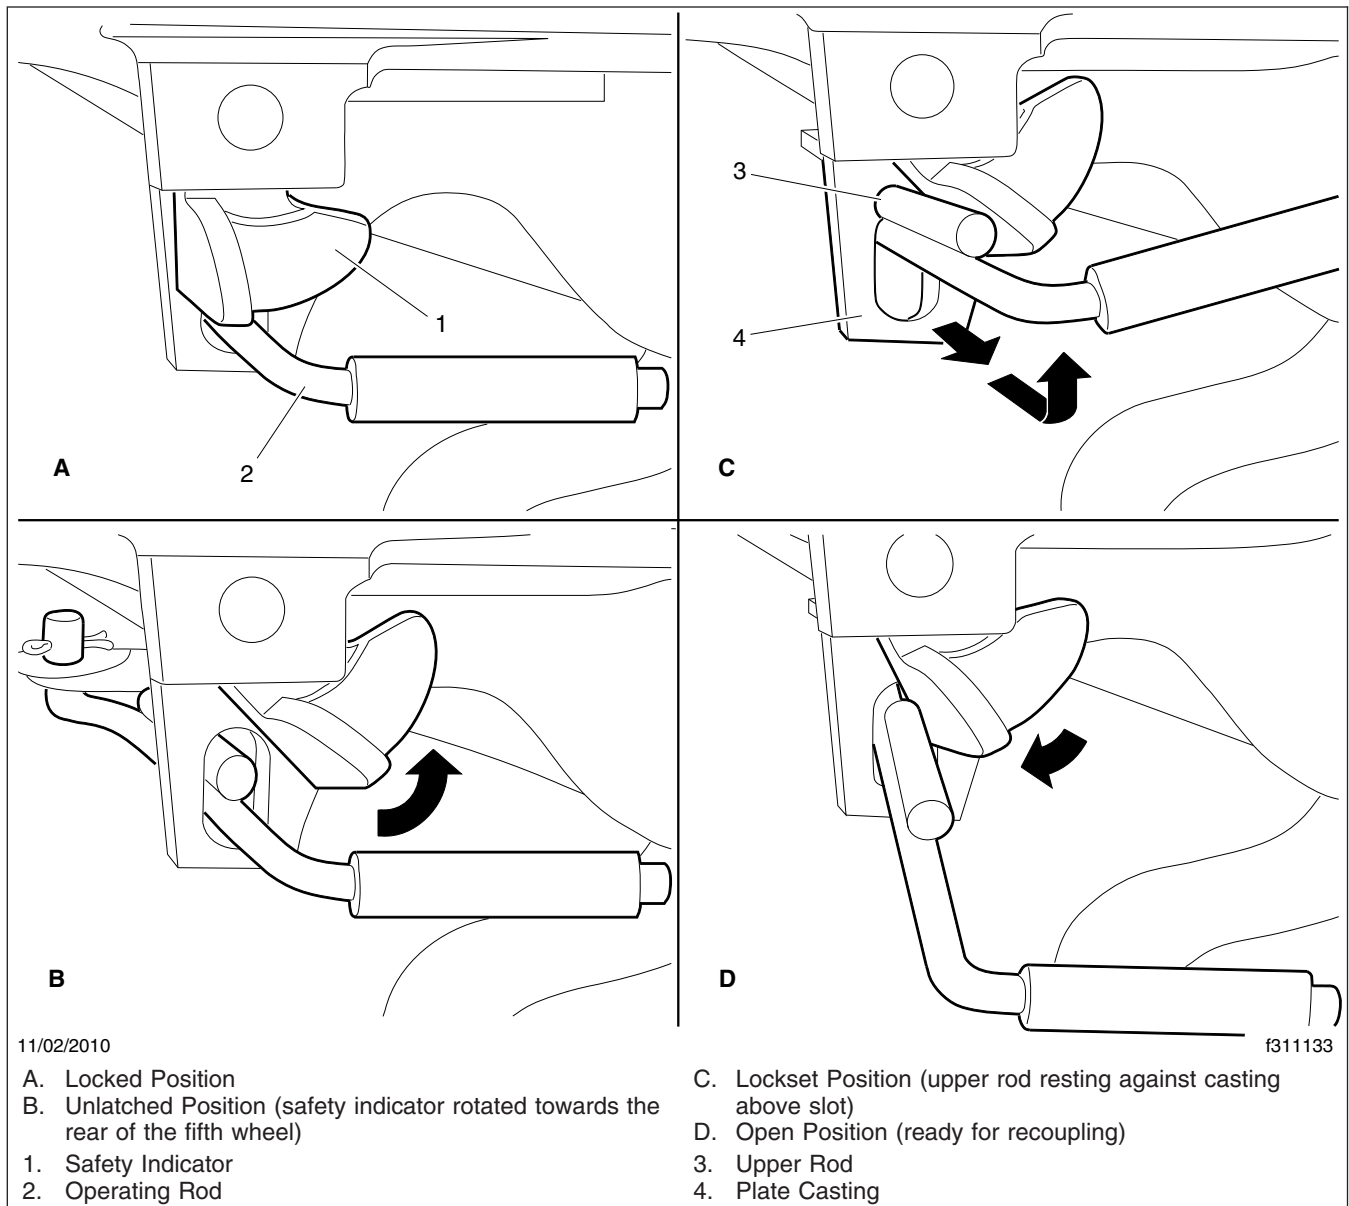

Fig. 17.9, Holland Kingpin Locking Mechanism
- Holland:** In the locked position the safety indicator swings freely over the operating rod. See Fig. 17.9, View A.
To unlock the mechanism, manually rotate the safety indicator toward the rear of the fifth wheel. See Fig. 17.9, View B.
Pull the operating rod out. When the upper operating rod shoulder is outside the slot, raise the handle and place the shoulder of the upper rod against the plate casting, above the slot. See Fig. 17.9, View C.
The fifth wheel is now in the lockset position and is ready for uncoupling. As the tractor pulls away from the trailer the kingpin forces the jaw to rotate, contacting the lock. Continued rotation of the jaw forces the lock to move outward, and drops the upper rod back into the slot. See Fig. 17.9 View D. The wheel is now ready for coupling.